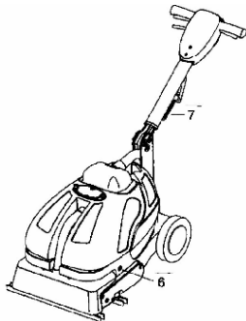

Fig 5
- **IMPORTANT** - Should the brush stop rotating due to operation of the cut-out on the brush motor, switch OFF the machine and allow to cool for a few minutes. Press the cut-out reset button on left hand side (Fig.5), and restart the machine.